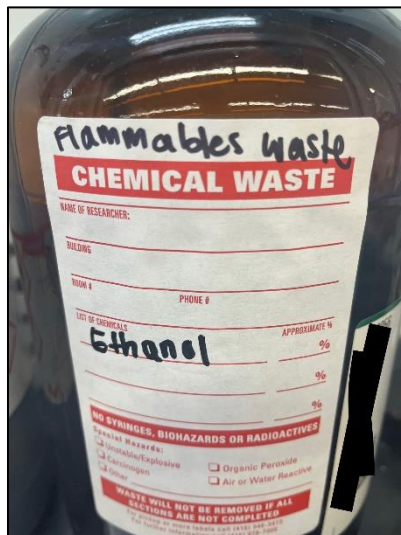

Figure 2
- 13.1. NO chemical abbreviations/shortform-FULL NAMES ONLY (Figure 2).